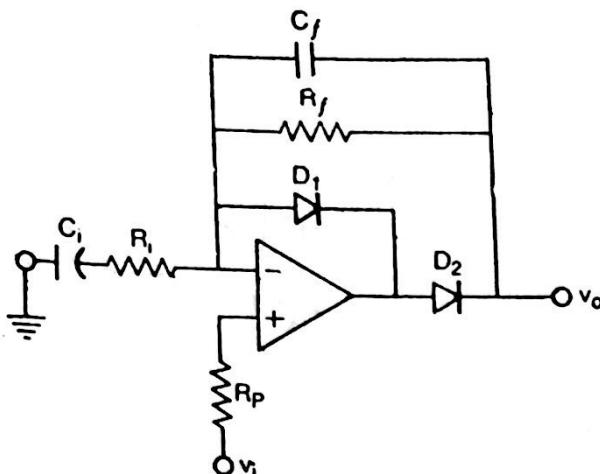

Fig. 44.
(3) Non-inverting Positive Polarity HWPR: Circuit for non-inverting positive polarity HWPR is shown in fig. 44. Waveform and characteristic are shown in fig. 38.